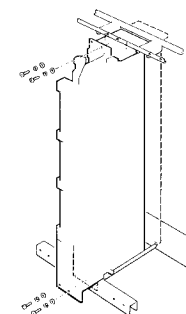

Figure 5-9. – Positioning & Securing Power Module Beyond The Stop Screw
- f) Use four M6 x 12 mm pozi-head screws with plain and spring washers, supplied as part of the mounting frame kit, to secure the power module in place, see Figure 5-9.